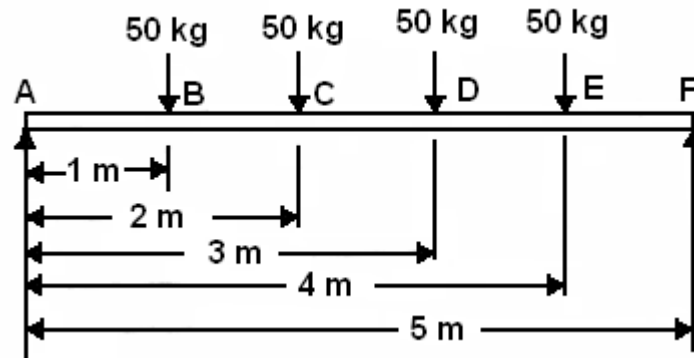

Figure 7:
4. A shaft of negligible weight 6 cm diameter and 5 meters long is simply supported at the ends and carries four weights 50 kg each at equal distance over the length of the shaft as shown in figure 7. Find the frequency of vibration by Dunkerley's method.